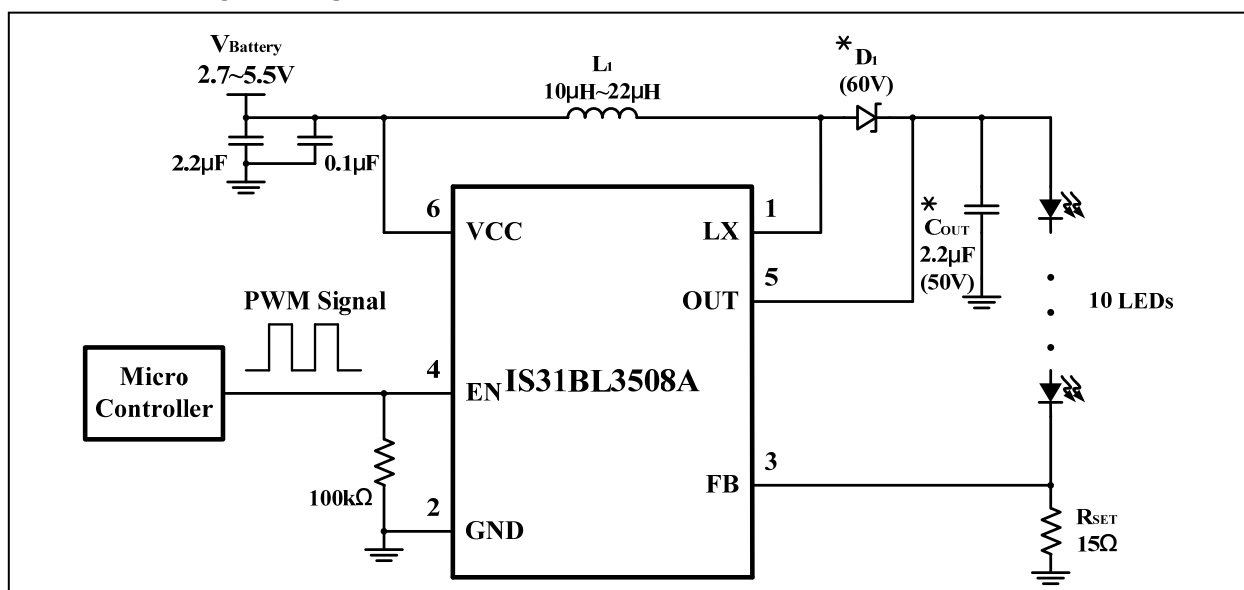

Figure 1 Constant Current White LED Driver Using PWM At The EN Pin To Control Intensity
The choice of the inductor value will affect the performance of the device. Large value inductors will reduce the current ripple in the inductor, thus reducing output voltage ripple. However large value inductors of the same current rating, typically also have larger DC resistance, thus reducing the system efficiency. For example in Figure 1, the loads are 10 WLEDs and output current is 20mA. The maximum input current can reach 600mA. For this application a 10 μ H 700mA inductor is sufficient.
When the IS31BL3508A is used for LED driving applications (Figure 1), the LED current flows through the external feedback resistor R_{SET} to regulate the LED current. The internal feedback regulation point is 0.3V. The maximum LED current may be calculated by the following Equation (1).